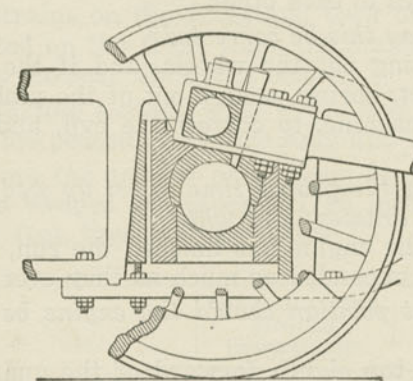

Fig. 243. Crank Pin and Driving Axle.
A. (1) Set tank brake as a precaution; place on the back center the crank pins of the side you wish to adjust; put reverse lever in or near center notch. You will then have a lead opening in the back steam port of the side on which you are working, while on the opposite side the ports will be covered. Open throttle, and the driving boxes will be drawn against the dead wedges. Loosen set screws in side of jaws and nuts under binder brace, and wedges may be easily pried up with a short steel bar. Run the nuts on top of binders down with the fingers, then tighten the nuts under binder, and the side is finished. Place the crank pins of the opposite side on back center, and proceed in the same way. (2) With the engine near the top quarter on the right side, lever front, driver brake cut out, tender brake set or drivers blocked, throttle partly open, so that the steam will pull the crank pin ahead a bit as in Fig. 243. Pull the driver box